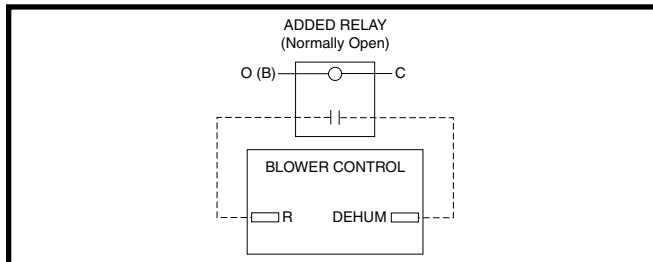

Figure 24. DEHUM Wiring Configuration without Humidistat
- If a humidistat is not available, it is an acceptable option to connect the **R** & **DEHUM** via a field supplied normally open relay. See Figure 24 \(page 24\). The **R** & **DEHUM** terminals should be connected across the normally open relay terminals. The **O (B) & C** terminals should then be connected across the relay coil. This option causes the blower to run at a reduced CFM for 10 minutes after a call for cooling.